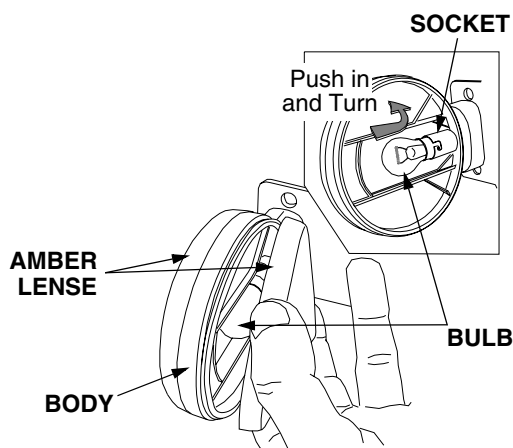

Figure 37
- Insert a **thin** bladed screwdriver, or similar tool, between an amber lense and the hazard light body, then twist to separate the lense from the body. See Figure 37.
- Push the bulb inward and turn counterclockwise, then pull the bulb outward to remove from the light socket. Refer to Figure 37.